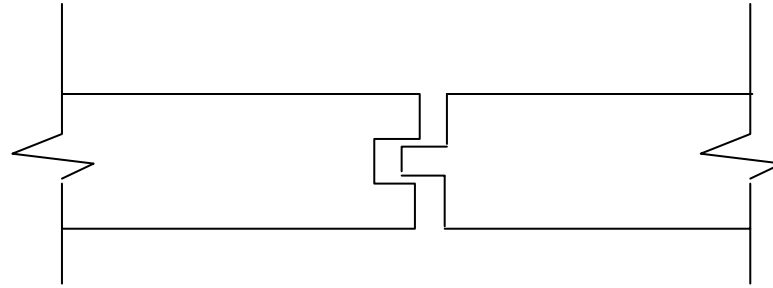

Fig. 15.7. Tongue and Groove Joint of Wooden Planks.
- The timber planks for the slab and beam bottoms should be joined by adequate tongue-and-groove joints, as shown in Fig. 15.7, so as to ensure adequate tightness against leaking of cement gout.